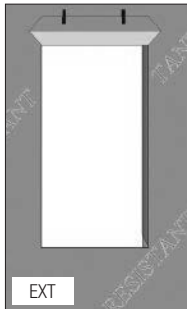

FIG. 4
- H) From the exterior, cut the top of the WRB as shown to form a flap.(Fig. 4)
- I) Temporarily tape this top flap up. (Fig. 4)